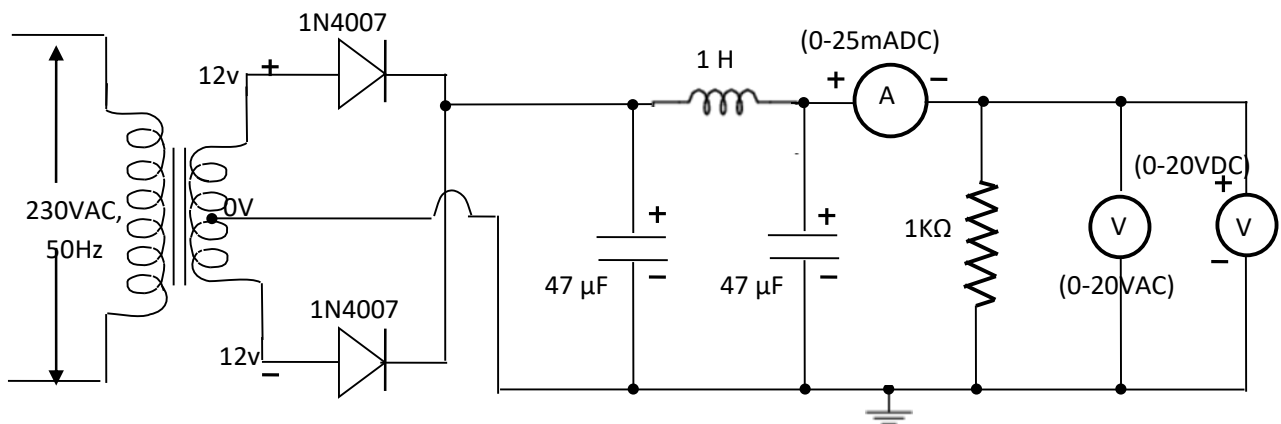

Fig.5 Full-Wave Rectifier with π-section filter
1. Connect the inductor according to the diagram in Fig.5.